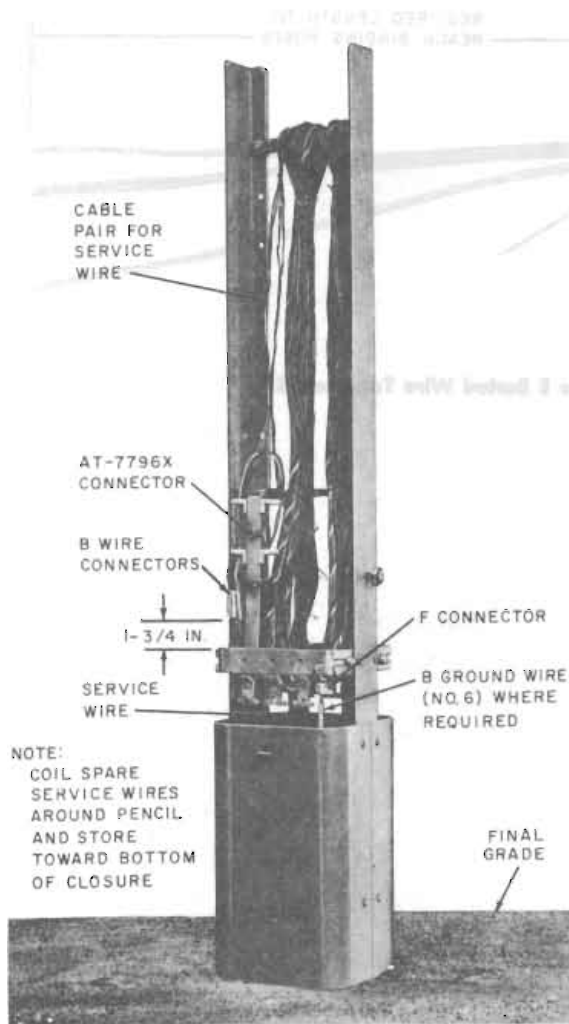

Fig. 55—Service Wire Installed—LD-Type Cable Closure (Nonprotected)
14.06 To connect the service wire directly to the cable pair, run the service wire up through the plastic clips on one side of the bracket assembly and down through the plastic clips on the opposite side. Remove the assigned cable pair from the binder group (see 7.02). Run the cable pair down through the plastic clips containing the ends of the service wire conductors. Cut the cable pair conductors even, 1-1/2 inches below the bottom plastic clip. Connect the cable pair conductors to the service wire conductors with B wire connectors or 700-type connectors (Fig. 55, see 7.03).